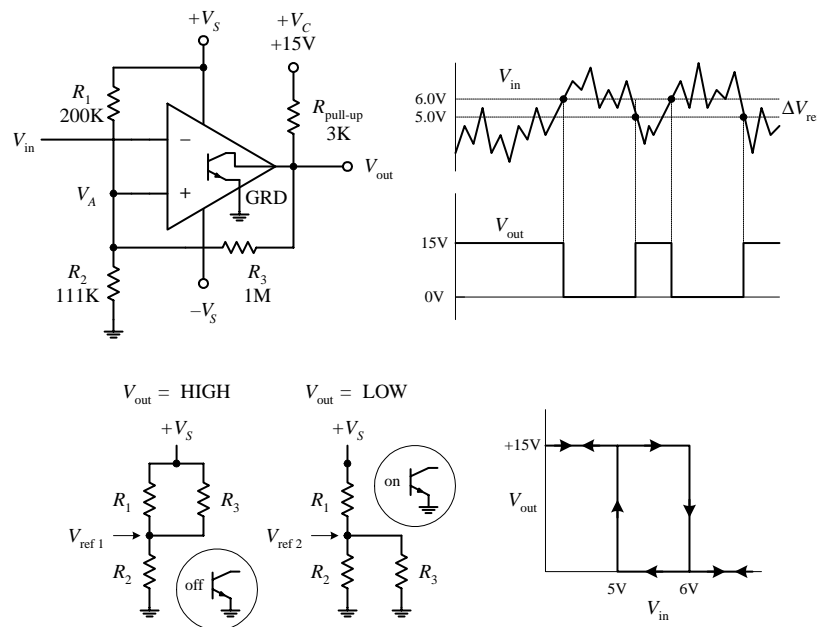

FIGURE 7.30
In the inverting comparator circuit shown in Fig. 7.30, positive feedback through R_3 provides the comparator with two threshold voltages or triggering points. The two threshold voltages result from the fact that the reference voltage applied to the noninverting terminal is different when V_{out} is high (+15 V) and when V_{out} is low (0 V)—a result of feedback current. Let’s call the reference voltage when the output is high V_{ref1} , and call the reference voltage when V_{out} is low V_{ref2} . Now let’s assume that the output is high (transistor is off) and $V_{in} > V_{ref1}$. In order for the output to switch high, V_{in} must be greater than V_{ref1} . However, what is V_{ref1} ? It is simply the reference voltage that pops up at the noninverting terminal when the output transistor is off and the output is high (+15 V).